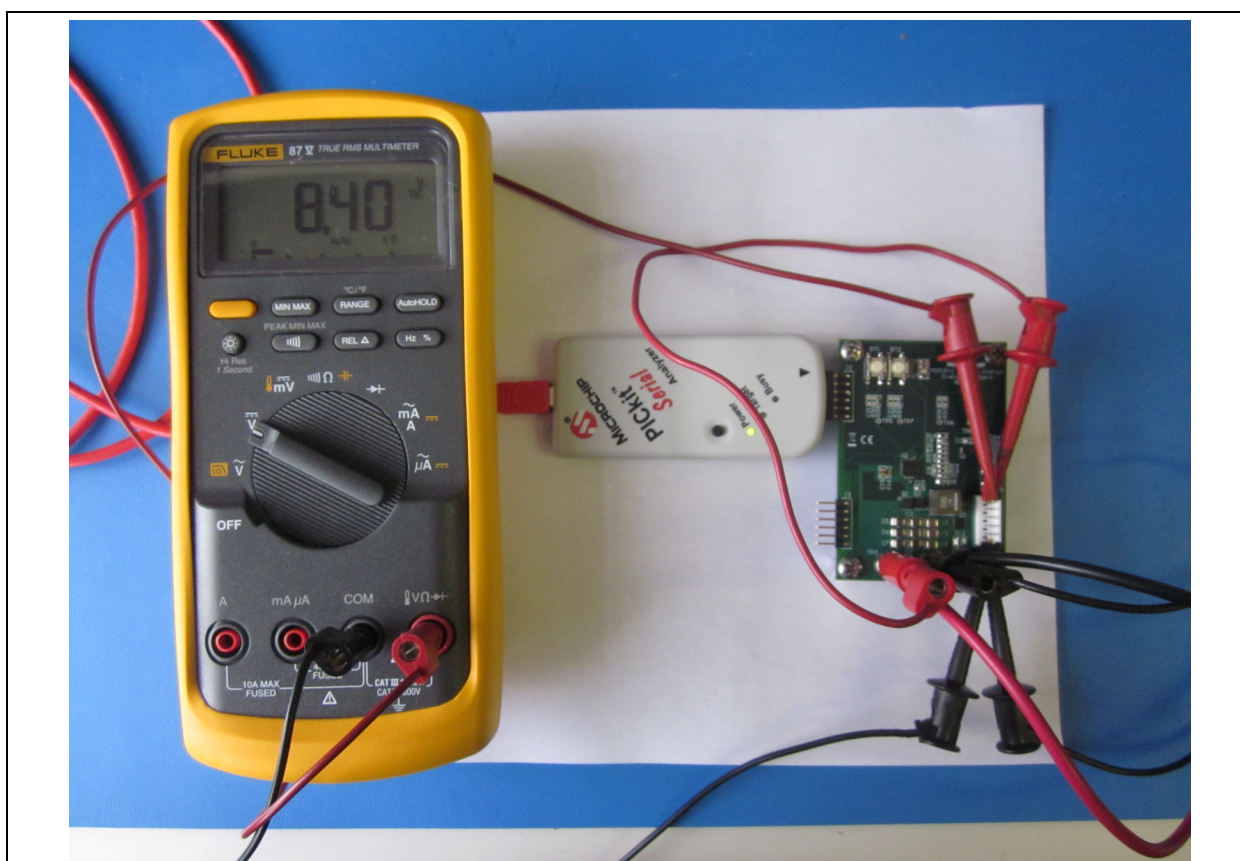

FIGURE 3-11: Voltage Calibration Setup.
4. Attach a multimeter to the same respective pins in order to accurately measure the simulated battery voltage. Make sure the voltage read is 8.40V. Refer to Figure 3-11 for the proper voltage calibration setup.